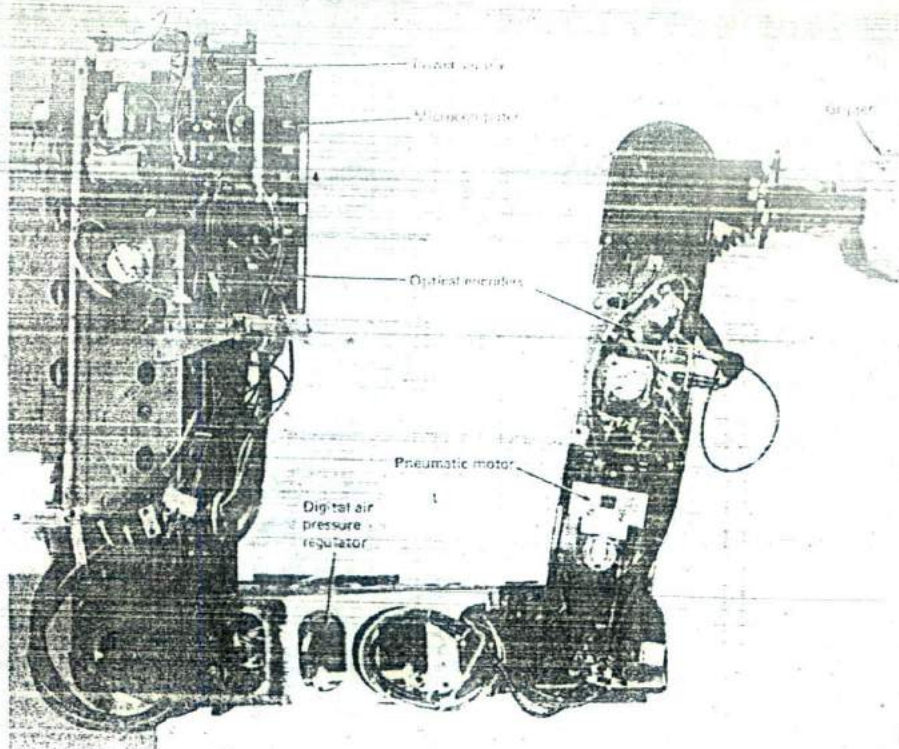

Fig. 15-18 IRI M50 robot arm. (Courtesy of International Robotization Intelligence)
The spool valve can be controlled by a solenoid; this solenoid can then be controlled by a microprocessor. Microprocessor control greatly improves the performance of air motors. This is the system used in the robot arm shown in Fig. 15-18. Air motors tend to give rough performance at low speeds. The microprocessor control smooths this out by digitally pulsing the air supply to the accumulator of each air motor. This technique is called *dithering* and provides performance characteristics once considered beyond the capabilities of air motors. There are five air motors in this particular manipulator, one for each major axis. Each is controlled by a dedicated 8-bit
10. Is the arm shown in Fig. 15-18 an example of a servo-controlled or a nonservo-controlled robot? Why?